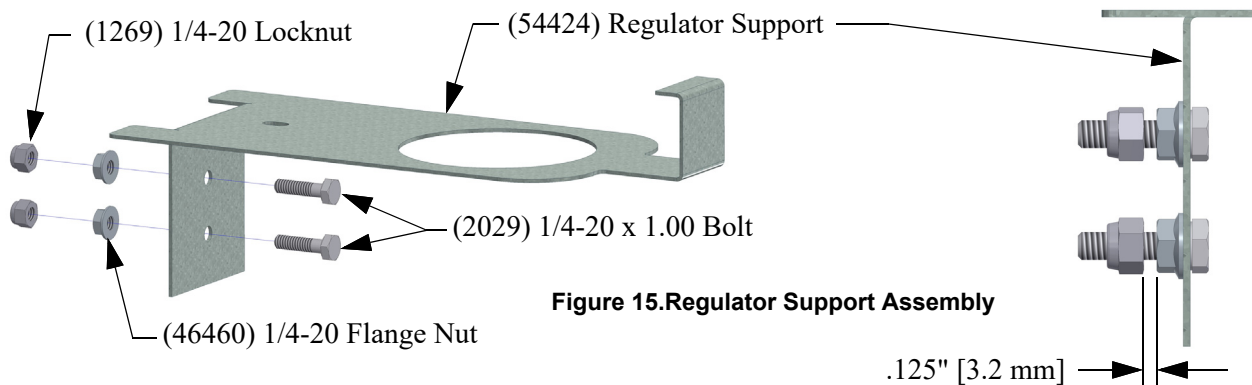

Figure 15. Regulator Support Assembly
1. Install (2029) Bolts and (46460) Flange Nuts in the (54424) Regulator Supports (As Shown in Figure 15.).